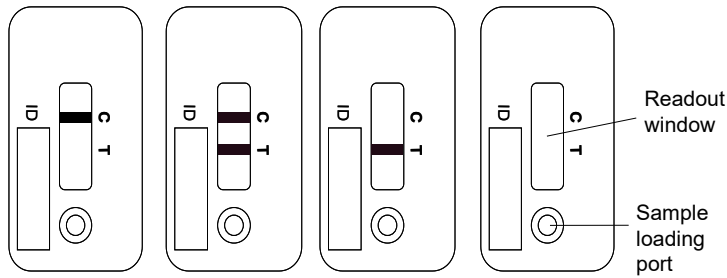

Figure 1A Figure 1B Figure 1C Figure 1D
- For a valid test result, the control line (C) must be visible in any case (see figure 1A and figure 1B). It is used as a functional test control only and cannot be used for the interpretation of the test line (T). If the test line (T) is not detectable after 15 minutes of incubation time (figure 1A), the concentration of infliximab present in the serum sample is below the detection limit. If a test line (T) is detectable after 15 minutes of incubation time (figure 1B), the infliximab concentration present in the serum sample is calculated by the Quantum Blue® Reader.